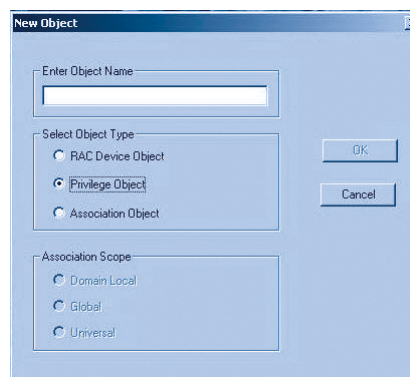

Figure 3. Adding a Device object to the Active Directory database
1. Select New > Dell RAC Object from the Active Directory console menu, and a dialog box similar to the one shown in Figure 3 is displayed.